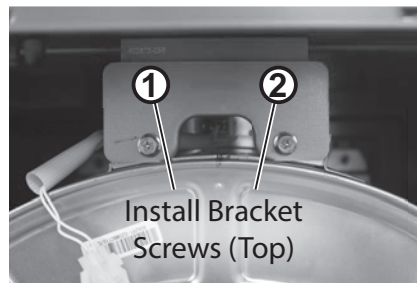

Figure 143 - Heat exchanger install bracket
- 46** Locate the heat exchanger install bracket and top two (2) screws as shown in Figure 143.